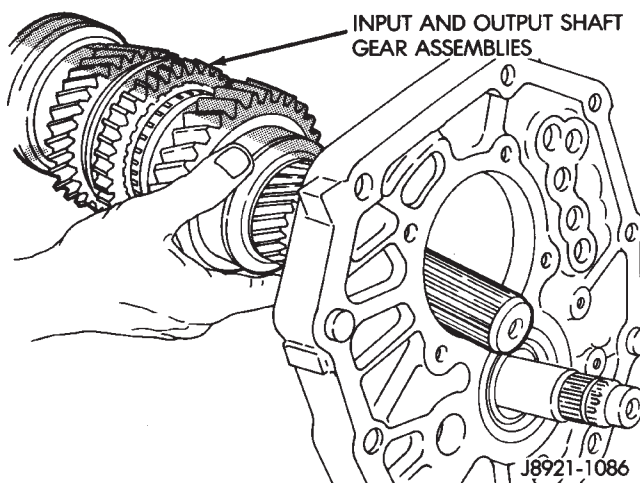

Fig. 56 Removing Assembled Input And Output Shaft
- (4) Remove output shaft by rocking it lightly until rear bearing comes out of intermediate plate (Fig. 56).